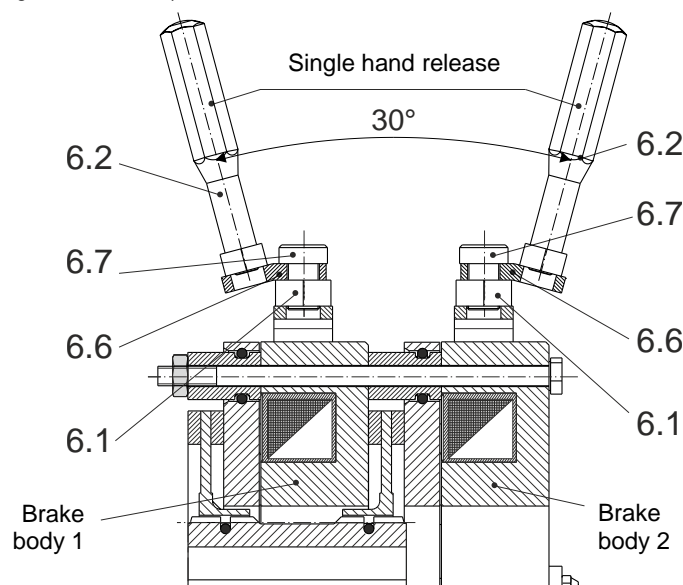

Fig. 8
1. Screw the bracket (6.6) with the cap screw (6.7) into the switch bracket (6.1) vertical to the switch bracket (6.1) as shown in Fig. 8, and secure it using Loctite 243. Please observe the tightening torque acc. Table 5!
4. Insert the screws (6.3) with the mounted thrust springs (6.4) through the coil carrier (3) into the bores on the armature disk (4).